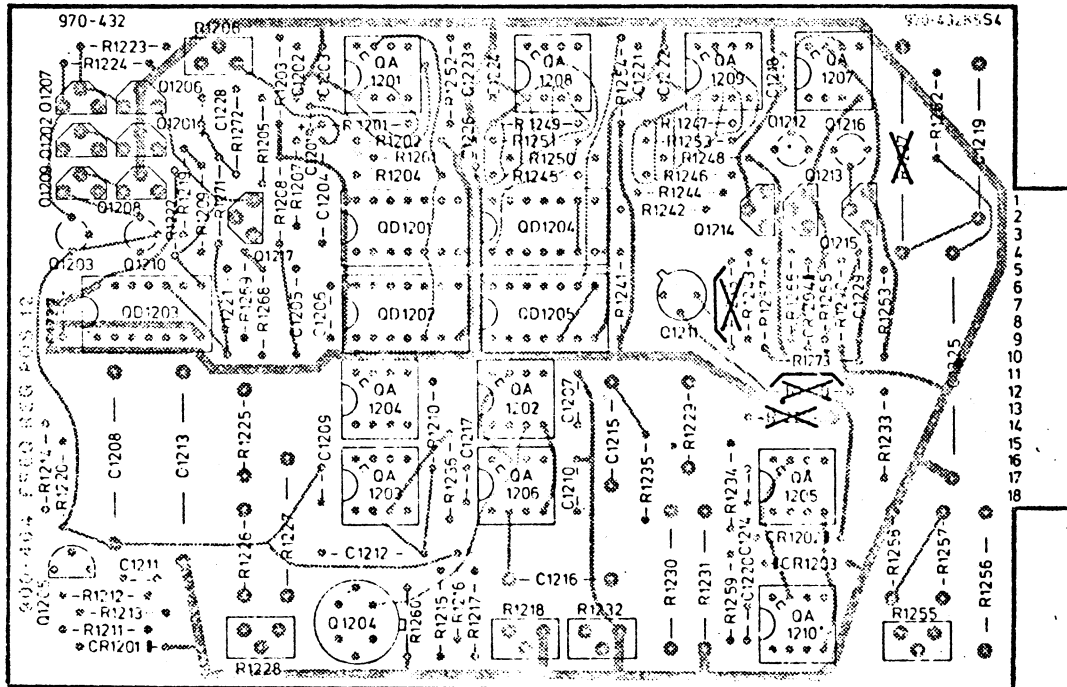

Fig. 1.
1. Remove the resistors R1237, R1238, R1239 and R1240, and place straps at R1238 and R1240, as shown in Fig. 1.